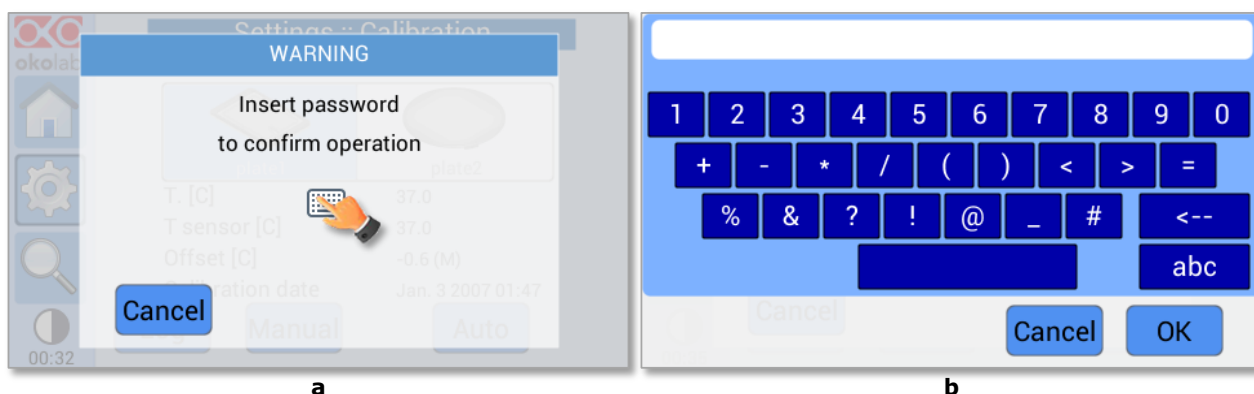

Figure 42. Password insertion. (a) Selection of the keyboard; (b) Input of the password
**Note** ► If you have inserted a protection password, you will be asked to type in the password before your name, as shown in Figure 42.